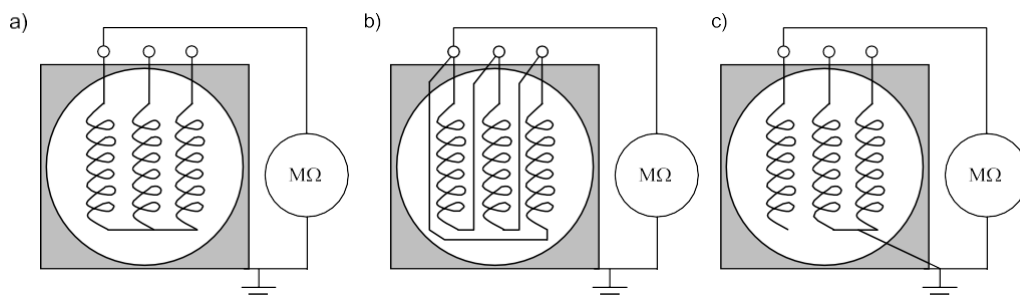

Figure 34 Connections of the stator windings for insulation resistance measurements
- Check that the secondary connections of the current transformers (CT's), including spare cores are not open. See *Figure 34 Connections of the stator windings for insulation resistance measurements*.
The insulation resistance measuring should be carried out in the terminal box. The test is usually performed to the whole winding as a group, in which case the meter is connected between the frame of the machine and the winding; See *Figure 34 Connections of the stator windings for insulation resistance measurements*. The frame is earthed and the three phases of the stator winding remain connected at the neutral point, see *Figure 34 Connections of the stator windings for insulation resistance measurements*.
for all machines. In this measurement, the tester is connected between the frame of the machine and one of the windings. The frame and the two phases not measured are earthed; see *Figure 34 Connections of the stator windings for insulation resistance measurements*.